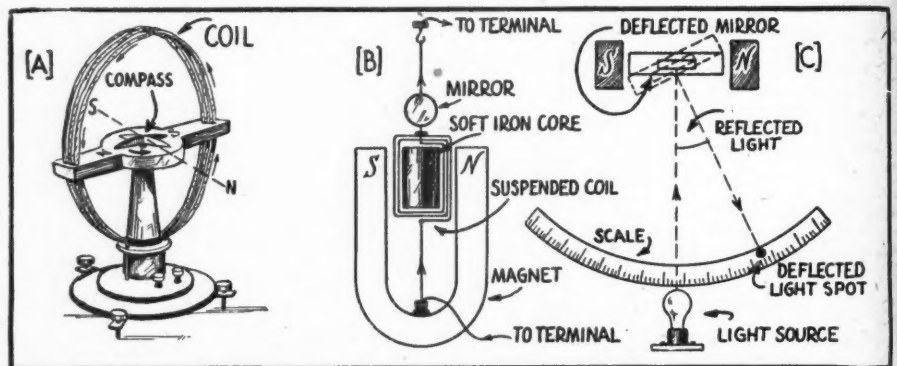

Figure 1. (A) Simple form of tangent galvanometer. (B) D'Arsonval galvanometer movement. (C) Light beam arrangement for amplifying movements of the mirror.
**T**HE foregoing objectionable features of the original form of tangent galvanometer, led to its improvement by several men, but perhaps the most important improved form was that of D'Arsonval. This is called the D'Arsonval galvanometer, after its inventor, and is shown in simple form at (B) of Figure 1. Its construction and operation is as follows: